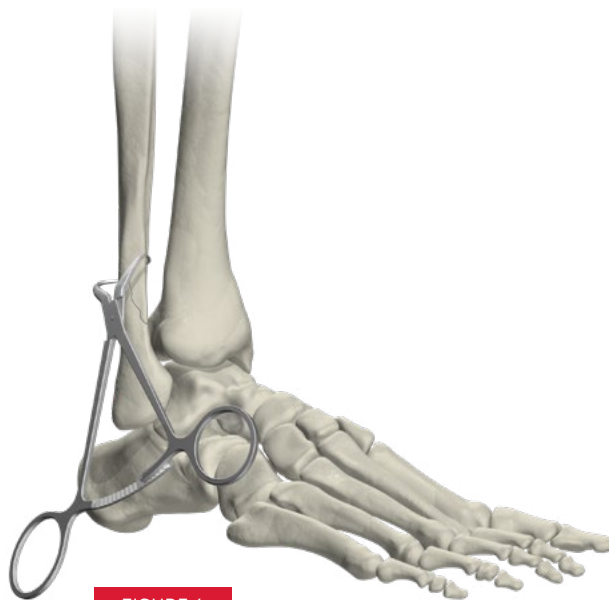

FIGURE 4
1. The fracture site is identified and debrided. Fracture reduction is performed. If the fracture morphology is amenable, an independent lag screw can be inserted first, as shown in **FIGURE 4**. Temporary stabilization is achieved using K-wires or a clamp, per surgeon preference.